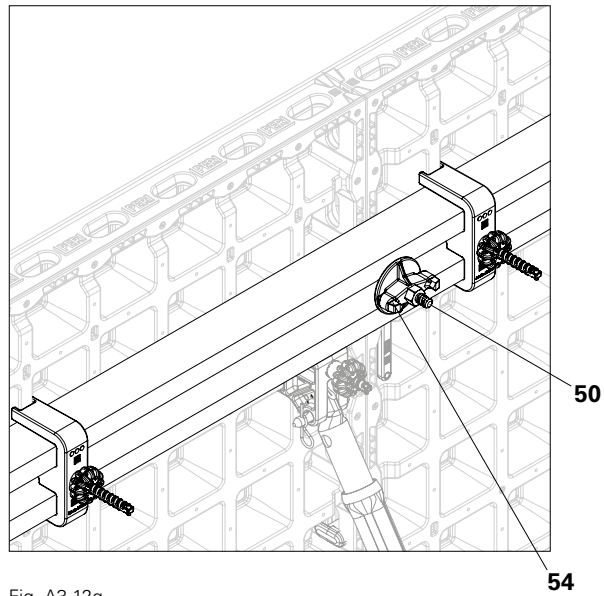

Fig. A3.12g
The distance between 2 square timbers makes it possible for a tie rod (50) and nut (54) or nut joint plates (56) to be installed. (Fig. A3.12g)